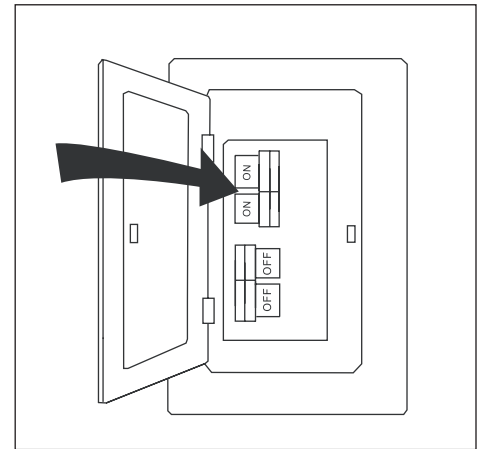

Figure 2.18
18. Turn on power to fan at breaker box and the wall switch (Figure 2.18). Assembly is complete.